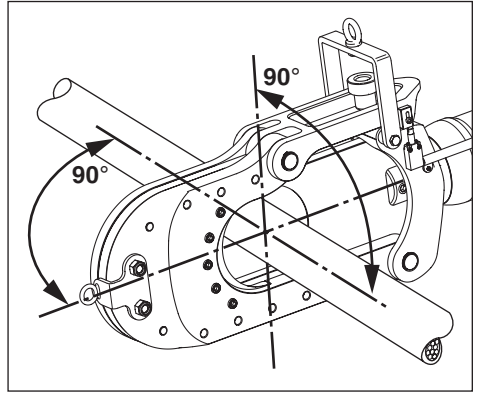

Figure 8, Positioning Material in the Cutting Head
Position the material to be cut between the cutter blades, so that it is perpendicular to the piston axis, as shown in Figure 8. This will provide the best quality cut while placing the least amount of load on the cutter.
5. Place the material to be cut between the fixed and moving blades. Be sure that it is perpendicular to the piston axis, as shown in Figure 8. Refer to instructions in Section 8.5 for additional information.